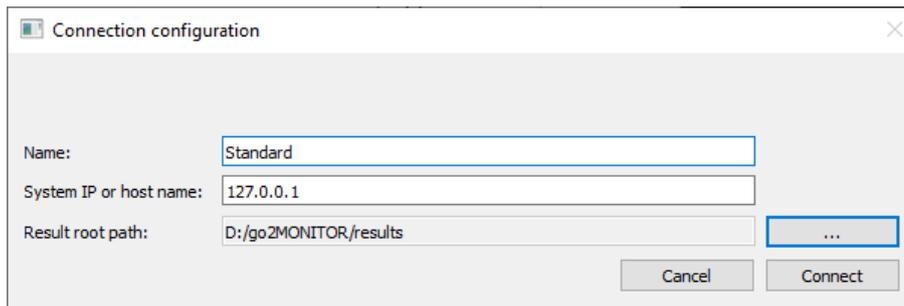

Figure 278: Connection configuration
This package allows each operator to utilize the central system's active wideband signal inputs and available narrowband processing channels, depending on resource availability (see Figure 278).
- A dedicated <Connection> menu, allowing users to create, edit, or select system connection profiles (see Figure 278). Each profile defines a connection name, the IP address of the go2MONITOR system and the path to the central result storage. When a different system connection is selected, the Operator application must be closed and restarted for the change to take effect. The currently active connection is always displayed in the status bar.